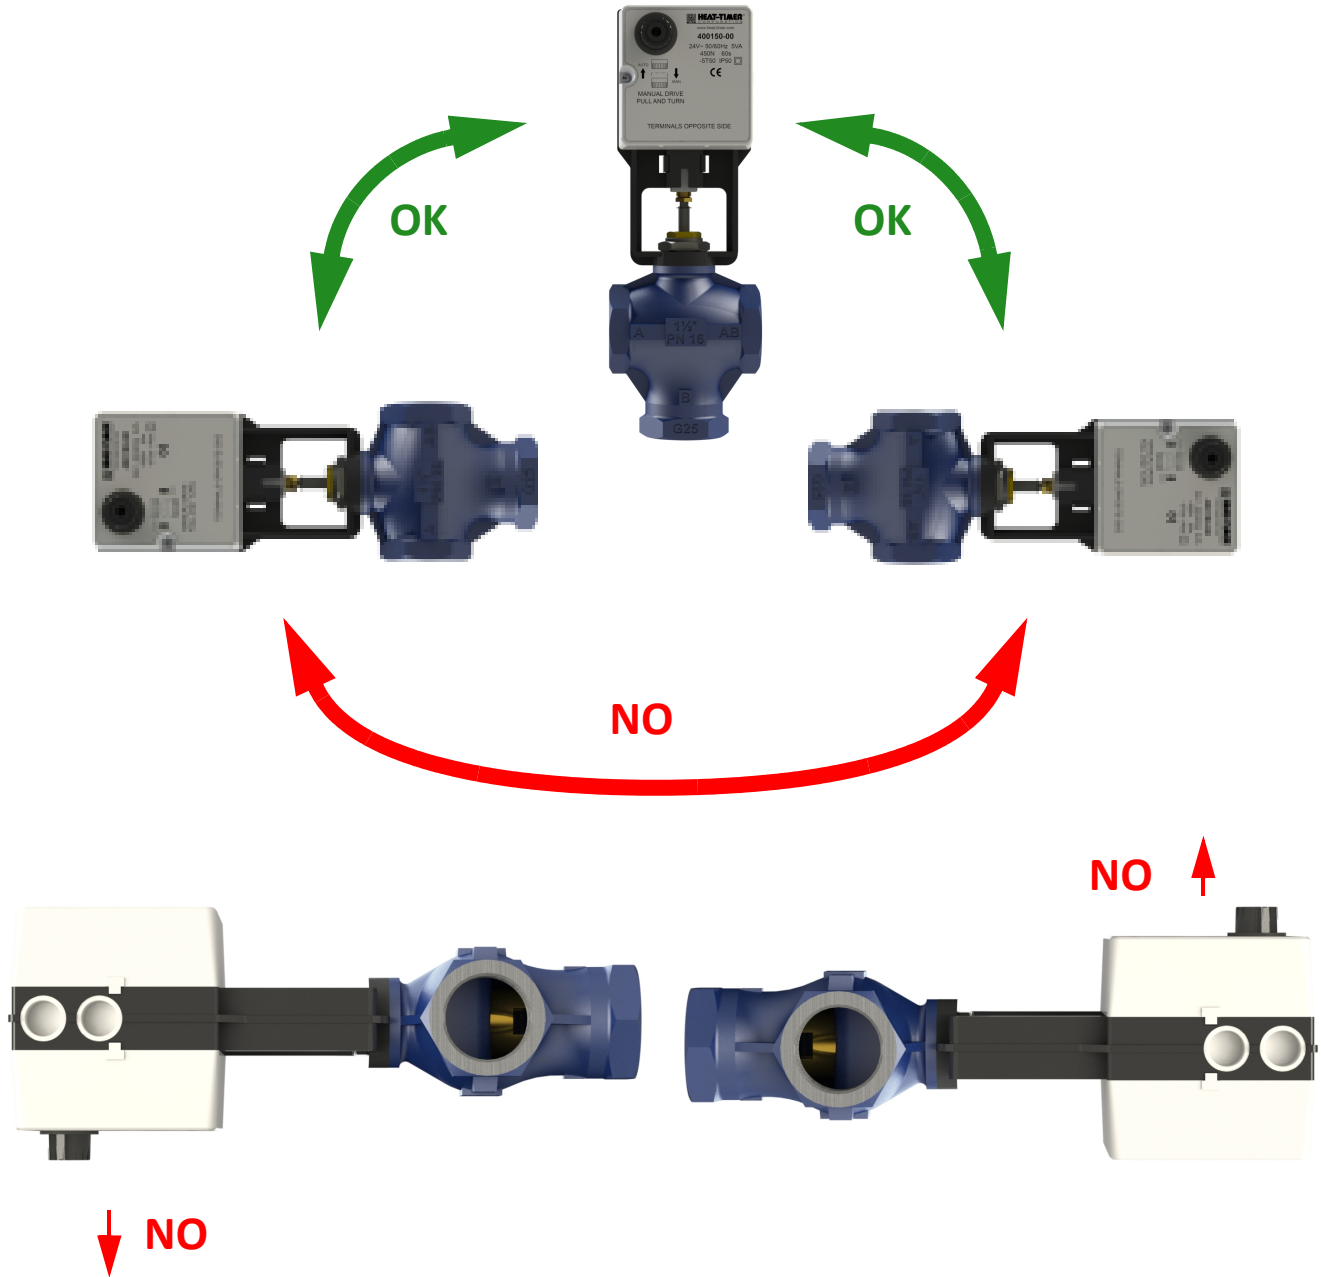

Figure 4: Acceptable Valve Body and Actuator Orientation
- The preferred orientation of the valve stem and actuator is upright (vertically). However, where space restrictions dictate, the valve actuator assembly can be mounted in any position as long as the valve is not upside down or the actuator manual control knob is not facing up or down (see Figure 4).